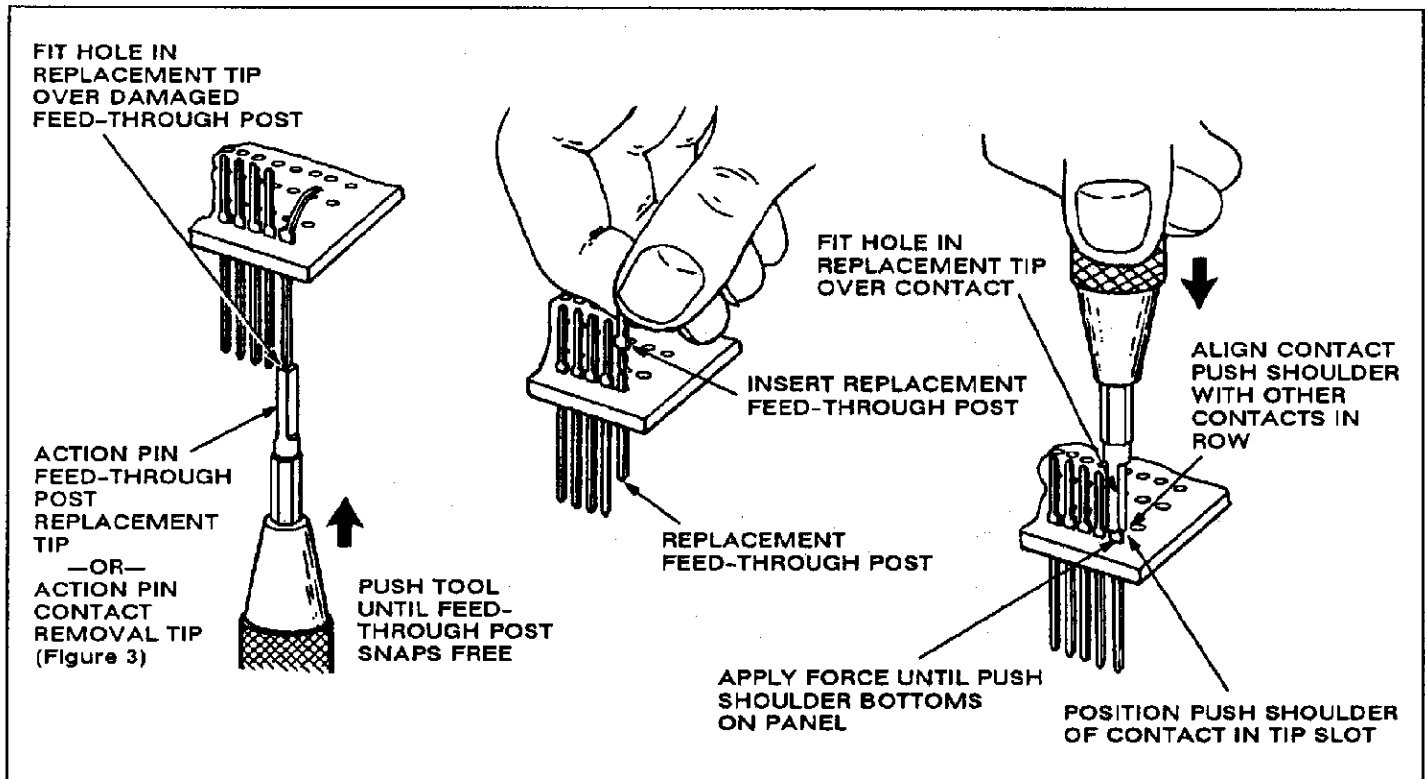

Fig. 7
6. FEED-THROUGH POST REPLACEMENT (Figure 7)